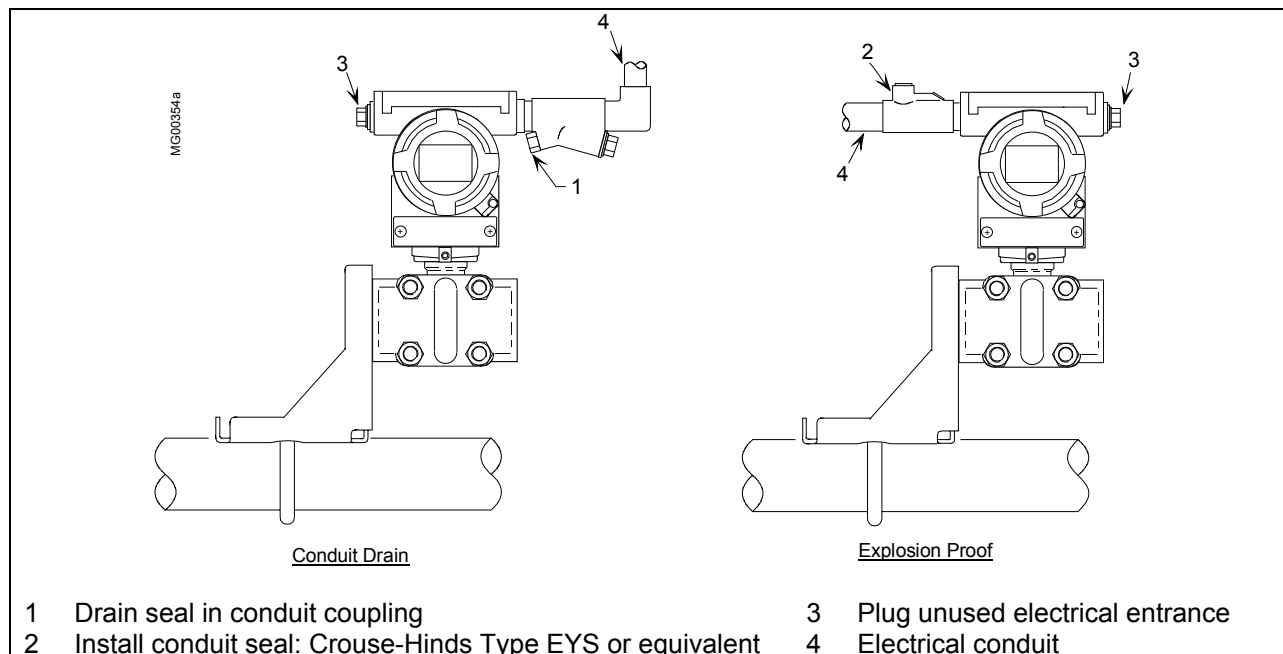

FIGURE 4-16 Conduit Drain and Explosion Proof Installations
- If a high humidity environment can exist and the transmitter is located at a low point in the conduit run, install drain seals at the transmitter's conduit inlets to prevent condensation from entering the transmitter. See Figure 4-16.
- User-supplied explosion-proof conduit seals (glands) are required on transmitter housing conduit outlets and any installed junction boxes. See Figure 4-16.